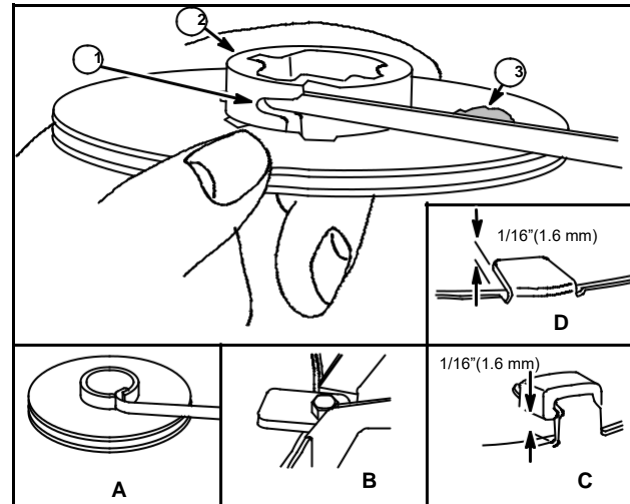

Fig. 8
5. Insert either end of spring into blower housing slot and hook into pulley, Fig. 8. Hole in pulley (1), hub (2). Insets show: **A, B, C**: Early styles, **D**: Current style – bend tang to create minimum 1/16 in. (1.6 mm), gap.
6. Place a dab of grease (3) on steel pulley only.
7. Set pulley into housing and bend tang down, Fig. 8. Adjust tang gap as shown. Pulley must be depressed fully into rewind housing when measuring tang gap.